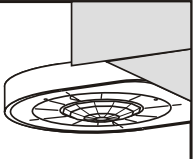

Figure 3
7. Slide the lock-nut over the wires and thread clockwise on to the threaded snap fit to secure firmly in place. Once the Snap Fit has been secured into the fixture, insert the opposite side of the keyed snap fit into the sensor making sure the lens is orientated towards the area to be monitored (field-of-view) (refer to Figure 3).